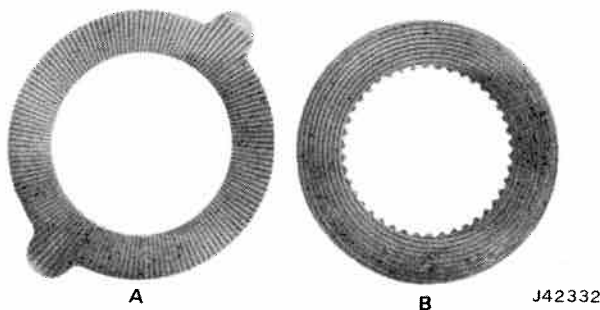

Fig. 10-44 Plate and Disc Identification
Examples of radial groove plate (A) and the concentric groove disc are shown in figure 10-44.